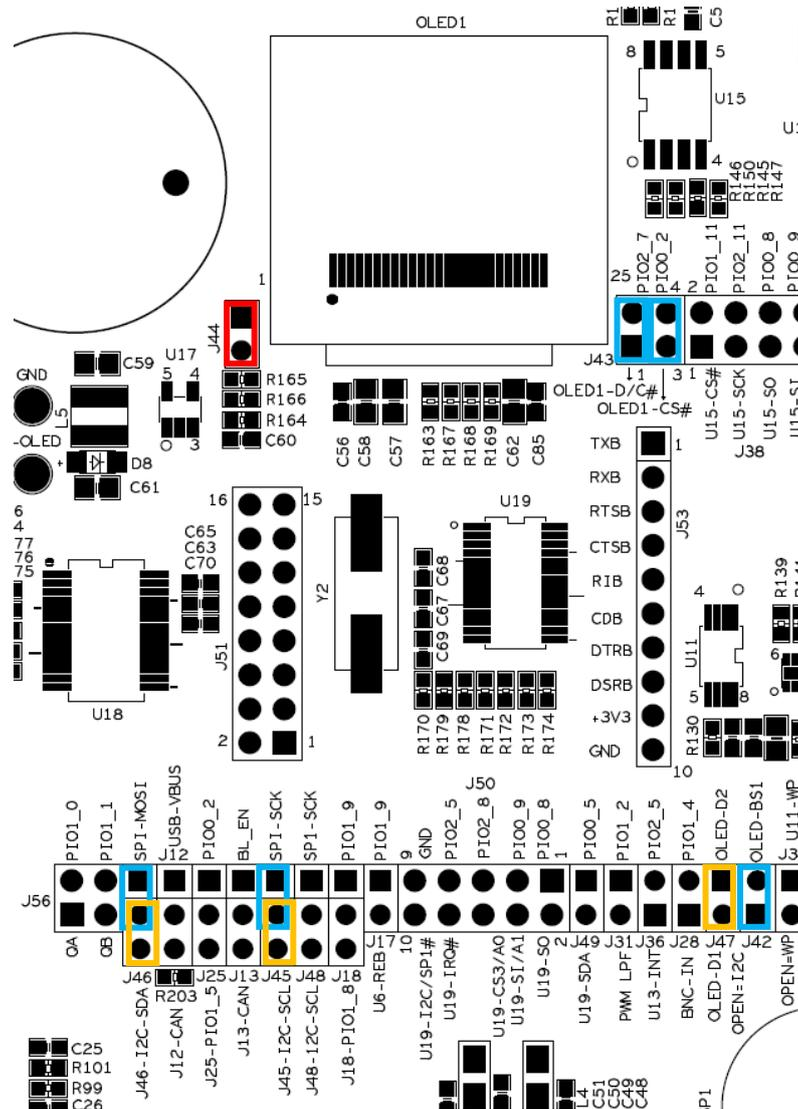

Figure 39 – Jumper Setting: OLED in SPI/I2C Mode
The OLED display, OLED1 (schematic page 10), can be connected either to the SPI-bus or the I2C-bus. Always insert a jumper in J44 (schematic page 10) in order to allow PIO1_10 to control the OLED-voltage (about 11V). See Figure 39 for details.
- For SPI interface (default), insert jumpers in J42, J43, J45 pin1-2 and J46 pin 1-2 (schematic page 10), as illustrated in Figure 39. Note that SPI mode is illustrated by blue jumpers.
- For I2C interface, insert jumpers in J45 pin 2-3, J46 pin 2-3 and J47 (schematic page 10), as illustrated in Figure 39. Note that I2C mode is illustrated by yellow jumpers.